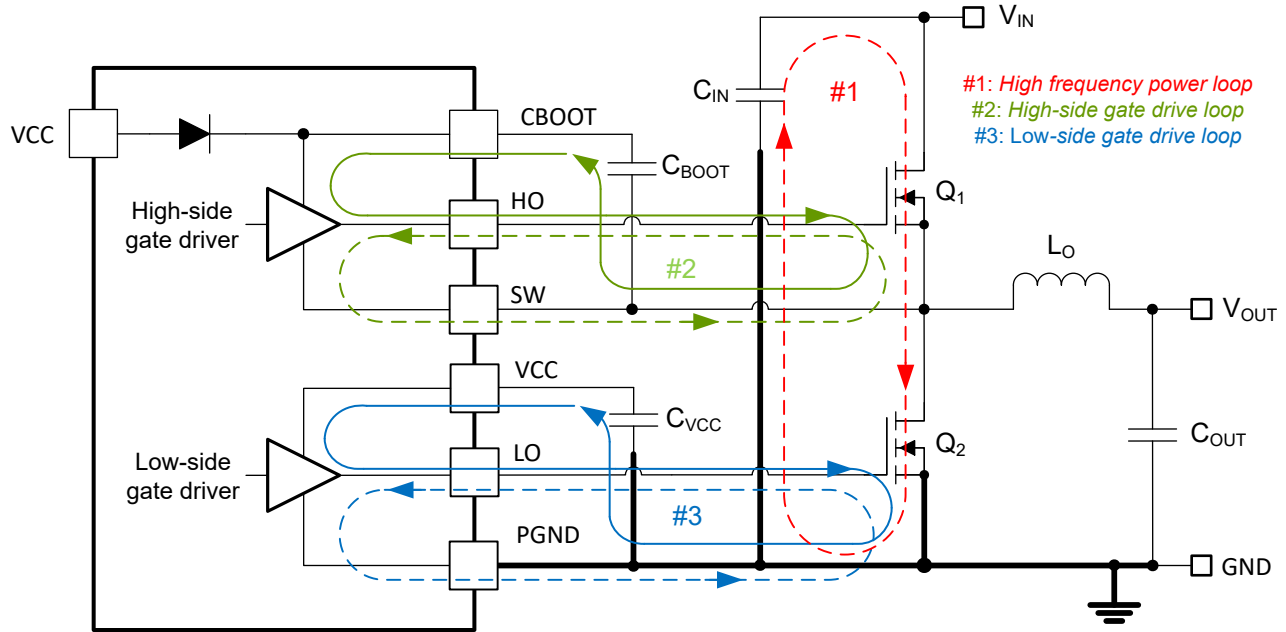

Figure 9-47. DC/DC Regulator Ground System With Power Stage and Gate Drive Circuit Switching Loops
Proper PCB design and layout is important in a high-current, fast-switching circuit (with high current and voltage slew rates) to achieve a robust and reliable design. As expected, certain issues must be considered before designing a PCB layout using the LM5149-Q1. The high-frequency power loop of a buck regulator power stage is denoted by loop 1 in the shaded area of Figure 9-47. The topological architecture of a buck regulator means that particularly high di/dt current flows in the components of loop 1, and it becomes mandatory to reduce the parasitic inductance of this loop by minimizing its effective loop area. Also important are the gate drive loops of the high-side and low-side MOSFETs, denoted by 2 and 3, respectively, in Figure 9-47.
- Loop 1: The most important loop area to minimize is the path from the input capacitor or capacitors through the high- and low-side MOSFETs, and back to the capacitor or capacitors through the ground connection. Connect the input capacitor or capacitors negative terminal close to the source of the low-side MOSFET (at ground). Similarly, connect the input capacitor or capacitors positive terminal close to the drain of the high-side MOSFET (at V_{IN}). Refer to loop 1 of Figure 9-47.
- The SW pin connects to the switch node of the power conversion stage and acts as the return path for the high-side gate driver. The parasitic inductance inherent to loop 1 in Figure 9-47 and the output capacitance (C_{OSS}) of both power MOSFETs form a resonant circuit that induces high frequency (greater than 50 MHz) ringing at the SW node. The voltage peak of this ringing, if not controlled, can be significantly higher than the input voltage. Make sure that the peak ringing amplitude does not exceed the absolute maximum rating limit for the SW pin. In many cases, a series resistor and capacitor snubber network connected from the SW node to GND damps the ringing and decreases the peak amplitude. Provide provisions for snubber network components in the PCB layout. If testing reveals that the ringing amplitude at the SW pin is excessive, then include snubber components as needed.
- Loop 2: high-side MOSFET, Q₁. During the high-side MOSFET turn-on, high current flows from the bootstrap (boot) capacitor through the gate driver and high-side MOSFET, and back to the negative terminal of the boot capacitor through the SW connection. Conversely, to turn off the high-side MOSFET, high current flows from the gate of the high-side MOSFET through the gate driver and SW, and back to the source of the high-side MOSFET through the SW trace. Refer to loop 2 of Figure 9-47.
- Loop 3: low-side MOSFET, Q₂. During the low-side MOSFET turn-on, high current flows from the VCC decoupling capacitor through the gate driver and low-side MOSFET, and back to the negative terminal of the capacitor through ground. Conversely, to turn off the low-side MOSFET, high current flows from the gate of the low-side MOSFET through the gate driver and GND, and back to the source of the low-side MOSFET through ground. Refer to loop 3 of Figure 9-47.